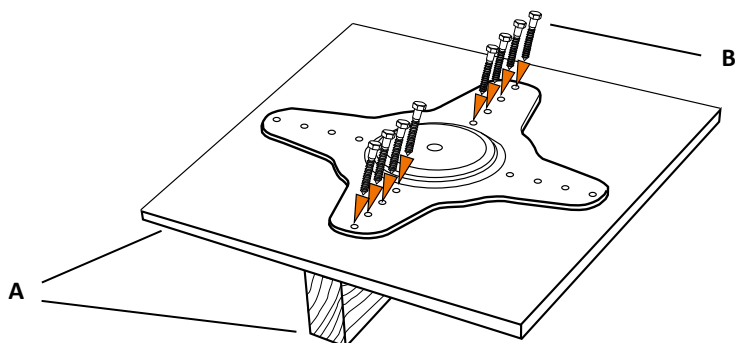

Figure 4 - Truss with Sheathing Wood Roof Substrate Installation
2. Place the anchor onto the sheathing in an orientation such that one of the two lines of eight fastener holes is aligned with the truss underneath the sheathing. See Figure 4.
4. Align the anchor base plate with the eight pre-drilled holes and install eight (8) provided screws through the baseplate holes and the OSB into the truss. Ensure the base plate is flush with the sheathing. Be careful not to overtighten the screws, which may strip out the wood and weaken the structure. DO NOT use nails. Use of any fastener other than those specified by FallTech requires approval by a Qualified Person or Professional Engineer.